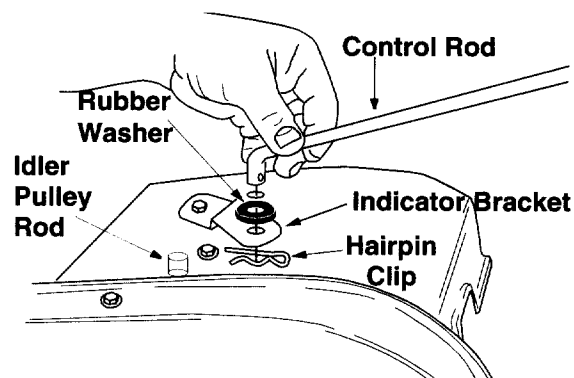

Figure 7
2. Insert one end of the control rod through the indicator bracket on the shift cover and secure with hairpin clip that was removed in step 1. See Figure 7.